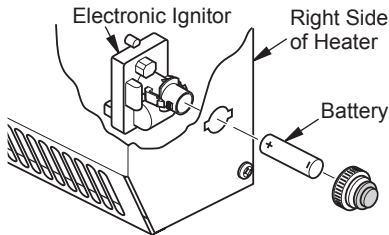

Figure 7 - Installing Electronic Ignitor
3. **For Electronic Ignitor**, install ignitor through hole located on right side of heater as shown in Figure 7, page 9.